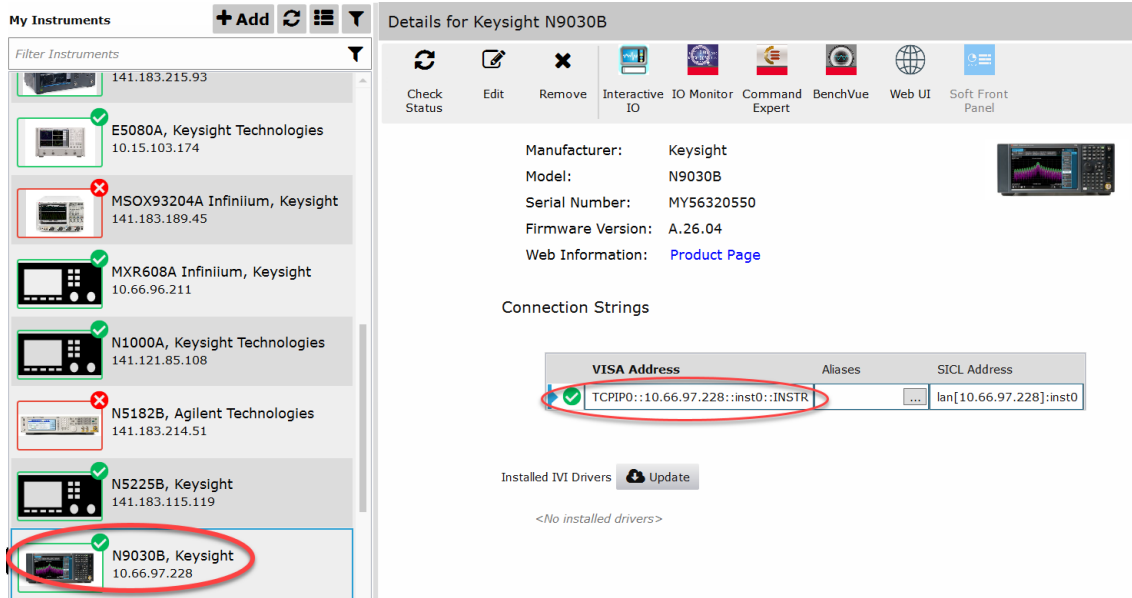

Figure 34 Checking VISA/SICL address for Injecting Signal Source in the Keysight Connection Expert
- 13 A pop-up box appears where you can enter either the VISA/SICL address or the IP address. Enter the information and click the **Verify** button, followed by the **Done** button to close this box. The VISA/SICL address or the IP address can be obtained from the Keysight Connection Expert application, as shown in Figure 34.
- 16 Click the **Connect** button. A pop-up box appears where you can enter either the VISA/SICL address or the IP address. Enter the information and click the **Verify** button, followed by the **Done** button to close this box. The VISA/SICL address or the IP address can be obtained from the Keysight Connection Expert application, as shown in Figure 34.
- 13 Click the **Connect** button. A pop-up box appears where you can enter either the VISA/SICL address or the IP address. Enter the information and click the **Verify** button, followed by the **Done** button to close this box. The VISA/SICL address or the IP address can be obtained from the Keysight Connection Expert application, as shown in Figure 34.